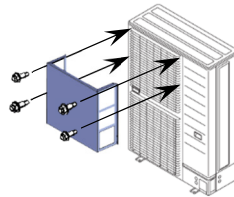

Figure 4
(2) Using the self-tapping screw provided, locate and secure the wind baffle as shown in Figure 4 and 5.